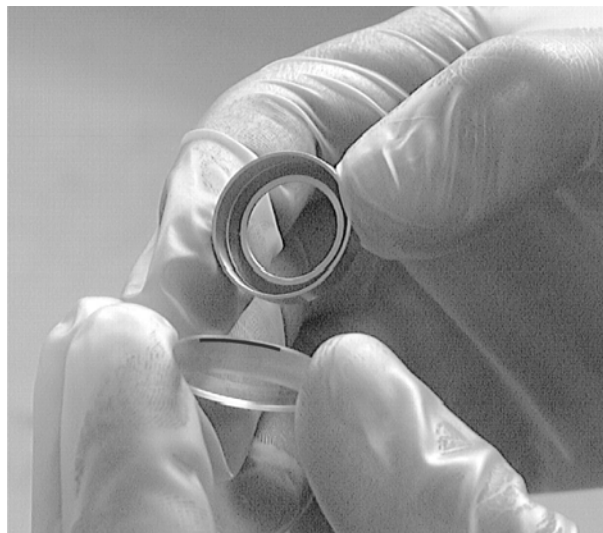

Figure 54: Inserting the window into the window collar
A) The coated side of the window is usually marked with a parallel line along the edge that has the coating (see Figure 54).
11. Carefully insert the cleaned or new window with the coated side down into the window collar as shown in Figure 54.